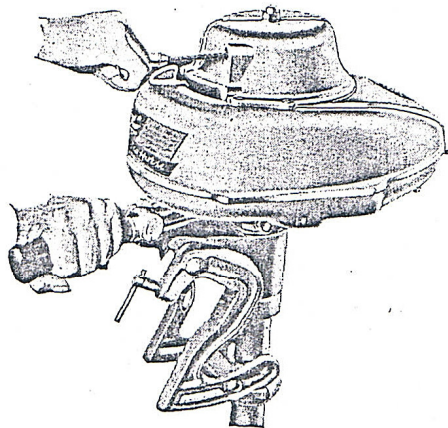

Fig. 8.
NOTE—The DeLuxe Single (DS) and DeLuxe Twin (DT) are equipped with the "Ready Pull". Fig. 8.
To start—Pull rapidly on starting cord. Note—Models DS and DT are equipped with the "Ready Pull" starter—simply pull on cord grip. Fig. 8.